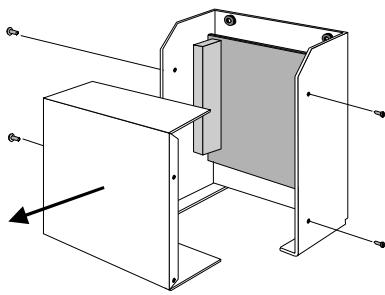

Figure 2.
- Then remove the cover (see Figure 2).